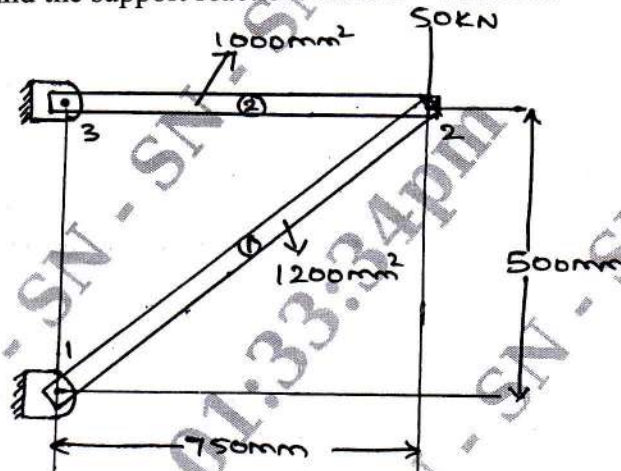

Fig Q6(b)
- b. For the two bar truss shown in Fig Q6(b), determine the nodal displacement and the stress in each member. Also find the support reaction. Take $E = 200\text{GPa}$.